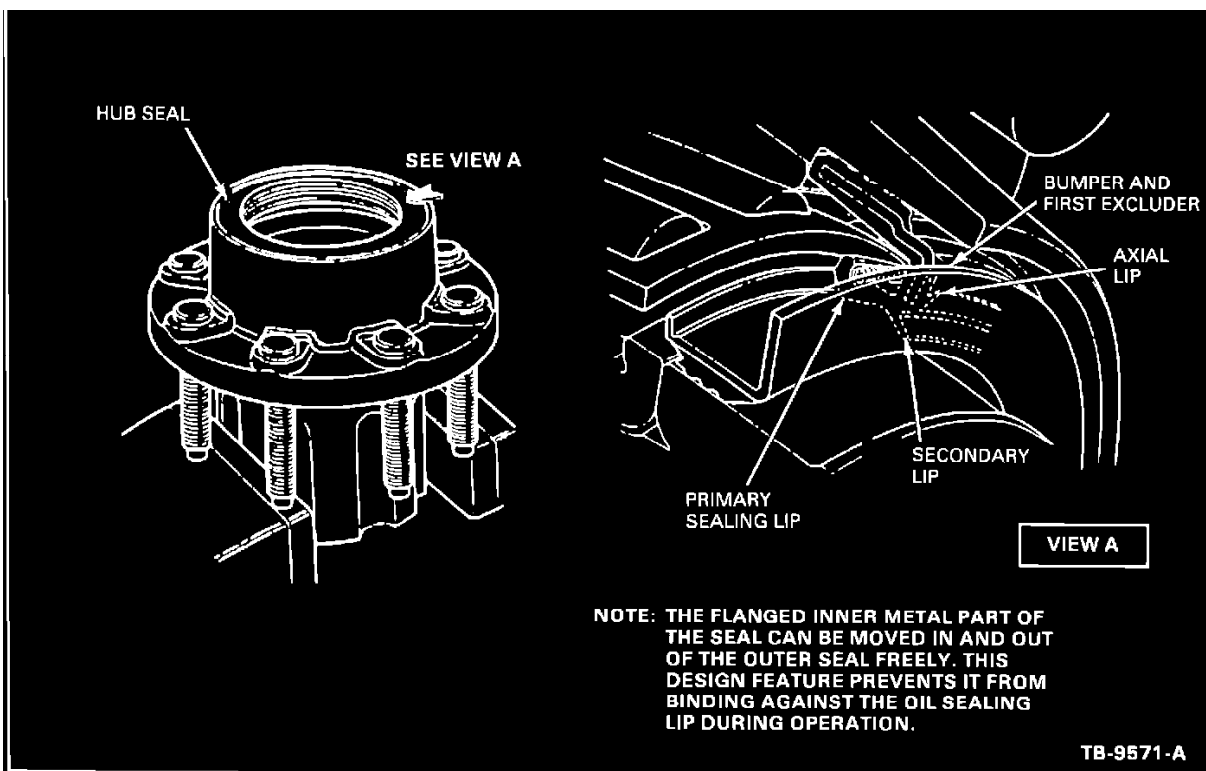

FIGURE 16
**NOTE:** UNITIZED WHEEL SEALS ARE STANDARD ITEMS ON FULL FLOAT REAR AXLES. THE UNITIZED WHEEL SEAL COMBINES THE FUNCTION OF A WEAR SLEEVE AND SEAL IN ONE SELF-CONTAINED UNIT WITH THE SEAL AND SLEEVE SURFACE INSIDE. THE UNITIZED DESIGN PROVIDES MAXIMUM PROTECTION FOR THE SEALING SURFACE DURING INSTALLATION AND OPERATION, FIGURE 16.